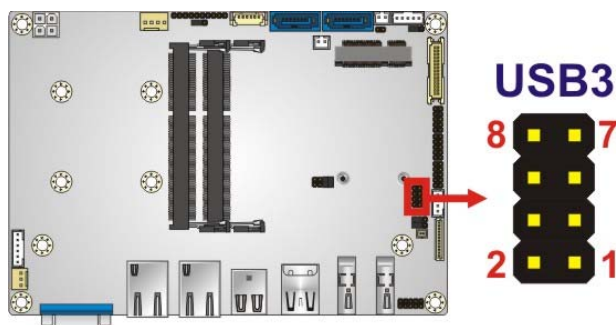

Figure 3-19: USB 2.0 Connector Location
- CN Location:** See Figure 3-19